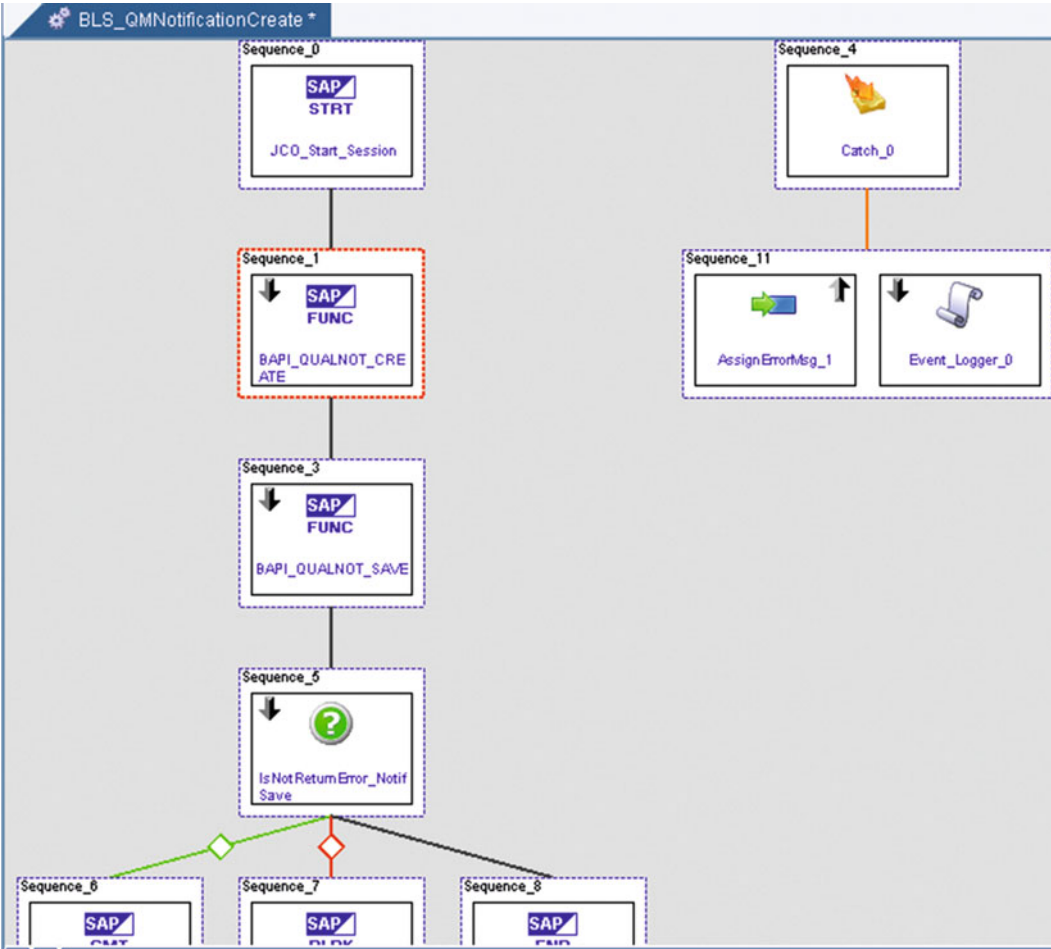

Figure 7-37. BLS to create quality notification
3. Develop a custom MII BLS (refer to Figure 7-37) to integrate with SAP QM to create a quality notification.